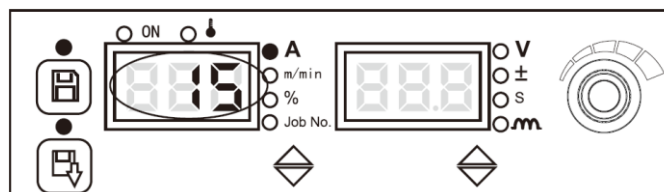

Figure 3-25 Screen for adjustable current range lock
3. On the screen for adjustable current range lock, according to the flashing digital tubes as reminding, use the knob on the panel of welding power source to set the adjustable current range, as shown in Figure 3-25, with the default adjustable current range locked as $\pm 15A$, and press the **Invoke** key for confirmation, and it will automatically go to the screen for adjustable voltage range lock.